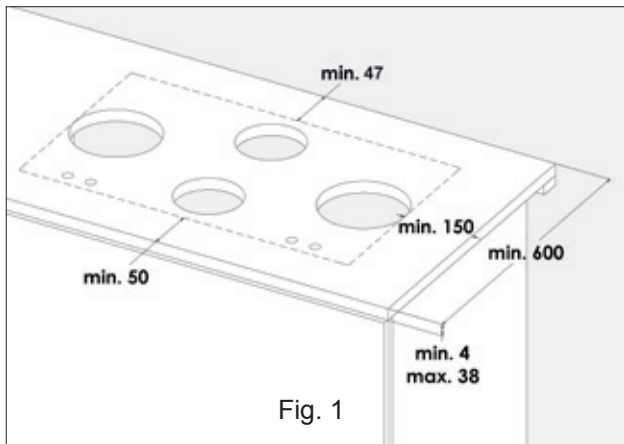
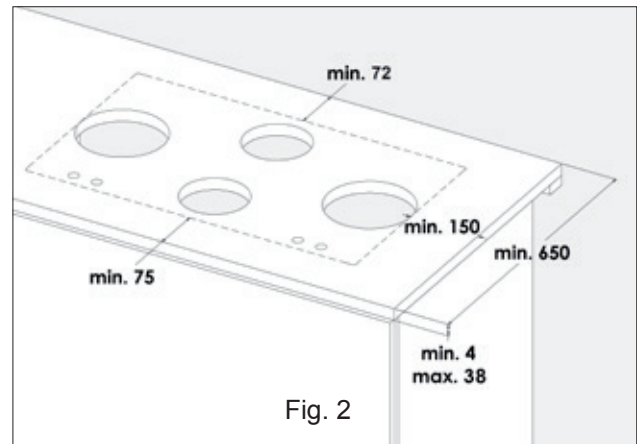

Fig. 1
Fig. 2
- 2a. The C-size should be at least 50 mm (**fig.1**). With the XL models, it should be at least 75 mm (**fig.2**). The distance between the cut out and the sides (left or right) of the worktop should be at least 150 mm.